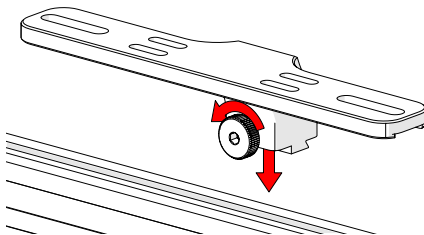

Fig. 146 - Loosen knob and mount to dovetail groove
1. Loosen the knob and align with the dovetail groove (Fig. 146).